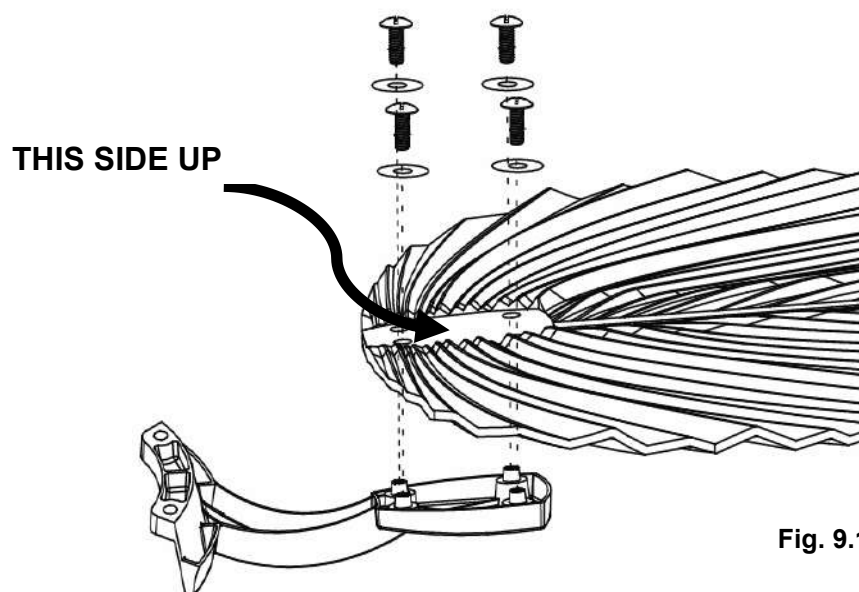

Fig. 9.1
1. Assemble the fan blades to the fan blade bracket by tightening the 4 blade screws and washers. Take note the correct side of the blades with the marking "THIS SIDE UP" is on the screw head side. (Fig. 9.1).